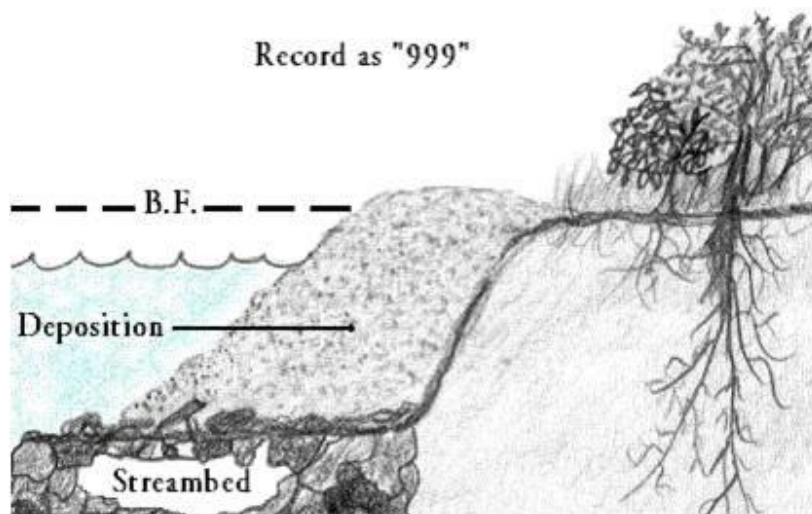

Figure 36: Do not measure an angle when the deposit covers the first flat, floodplain like feature. Record -99 for bank angle.
- If deposition ends at or above the first flat, floodplain-like feature (Figure 36), record '-99 deposition bank' for the bank angle.